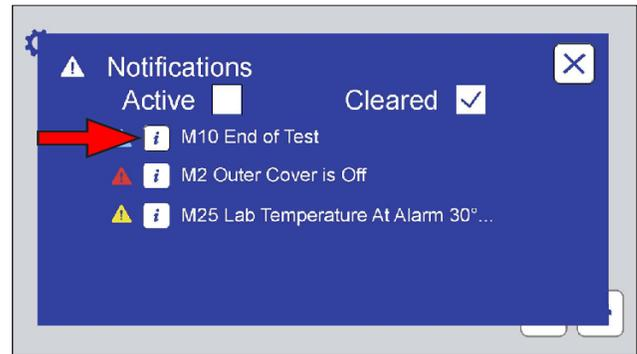
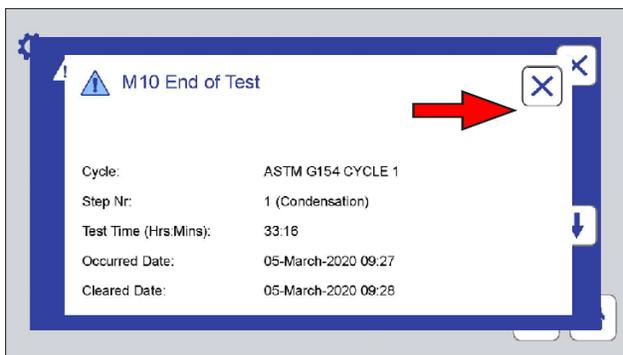

Figure 11.5f: Touch the information icon to display notification details.
Figure 11.5g: Notification details. Touch the Close icon to return to the Notifications Screen.
- Touch the notification information icon to display details (Figure 11.5f and Figure 11.5g).